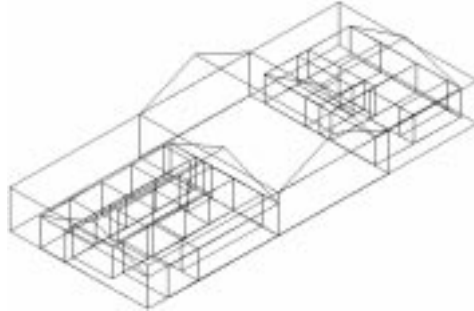

**FIGURE 20.** Relations between Building FUs, Mass. Element FUs and Floor/Storey FUs
**Floor/storey FU** A floor or storey can only be the constituent of a massing element or a building. Different massing elements may have different numbers of floors. Use the elevation attribute to indicate which floors are continuous across massing elements (see Figure 20 for the containment relations between buildings, massing elements and floors). A floor may contain among its constituents only vertical zones like shafts, horizontal zones, or rooms.